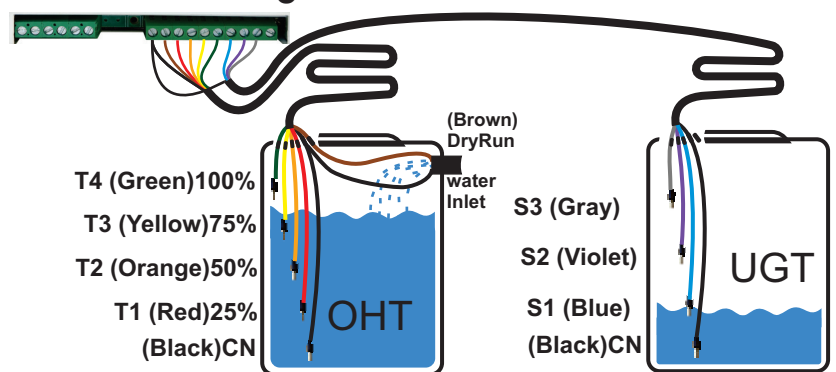

Figure4: sensor connection
Step 5: Lay 6 core cable between controller and Over Head Tank (OHT). Also lay 4 core cable between controller and Under Ground Tank (UGT). Join one end of the cables to sensor line connector of controller as per label. In tank side, **Contact type sensor connection:** Take the sensors and cut them according to the levels of tank and join them with the cable as per label coded. (Refer figure. 4) **Magnetic float sensor connections:** These Sensor has 2 wires, Use any one wire in each sensor as common. Other wires left in each can be used for levels. Join them with the cables as per label coded.
Step 6: Immerse the Sensors inside the OHT & UGT as per Figure 4, and tape it. Dry run sensor should be fixed in the inlet of the OHT. (Refer figure. 4) This completes installation.